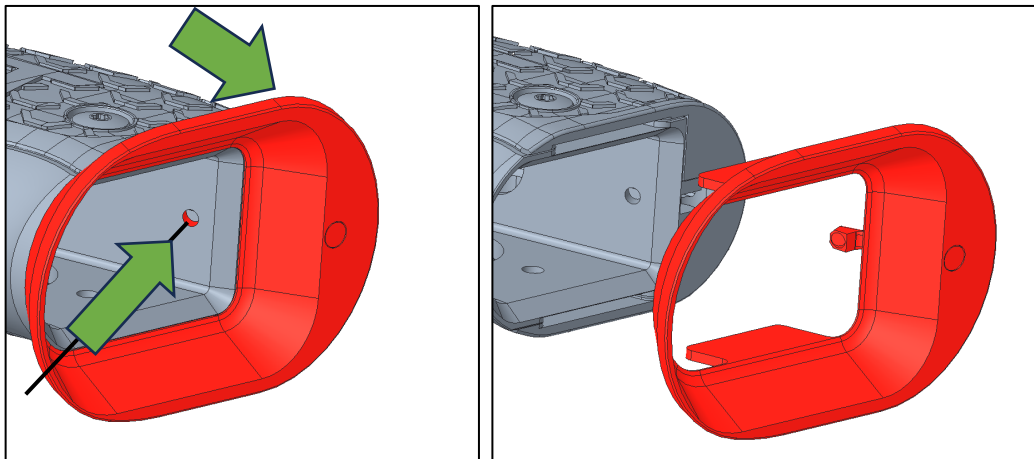

Figure 45: Inserting and pushing in with a punch for removal of the jet funnel
3. Insert a 2 mm punch into the hole located inside on the back side of the magazine well in order to release the latch (to unlock) the magwell extension. Simultaneously pull the magwell extension to remove it from the frame of the pistol (Figure 45).